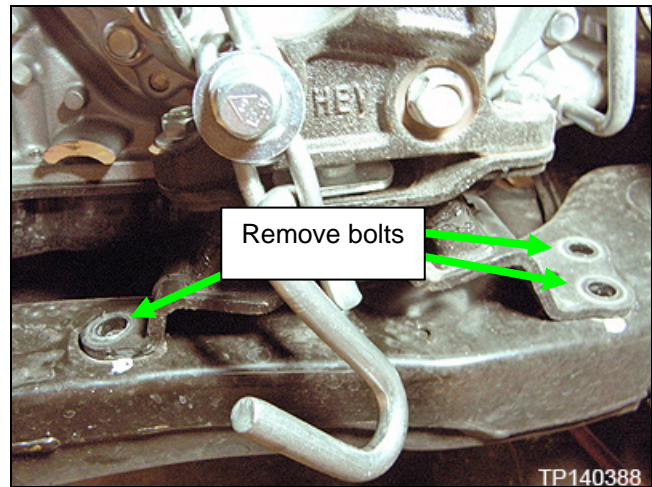

Figure 22
39. Tighten the transverse engine support bar j-hook nut until the CVT mount (Figure 22, page 11) lifts slightly off of the engine cradle.